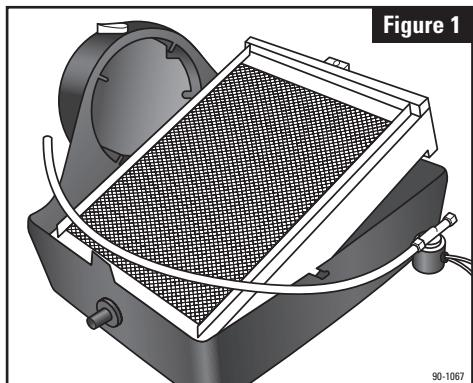

Figure 1
**1.** Press top & bottom tabs to remove cover (1). Pull feed tube (3) out of distribution tray (4). Remove Water Panel® Evaporator assembly. See **Figure 1**.
**2.** Humidifier is supplied with bypass duct connection on left. For right side bypass, swap location of drain spud (9) and cap (10). Twist to remove spud and cap.